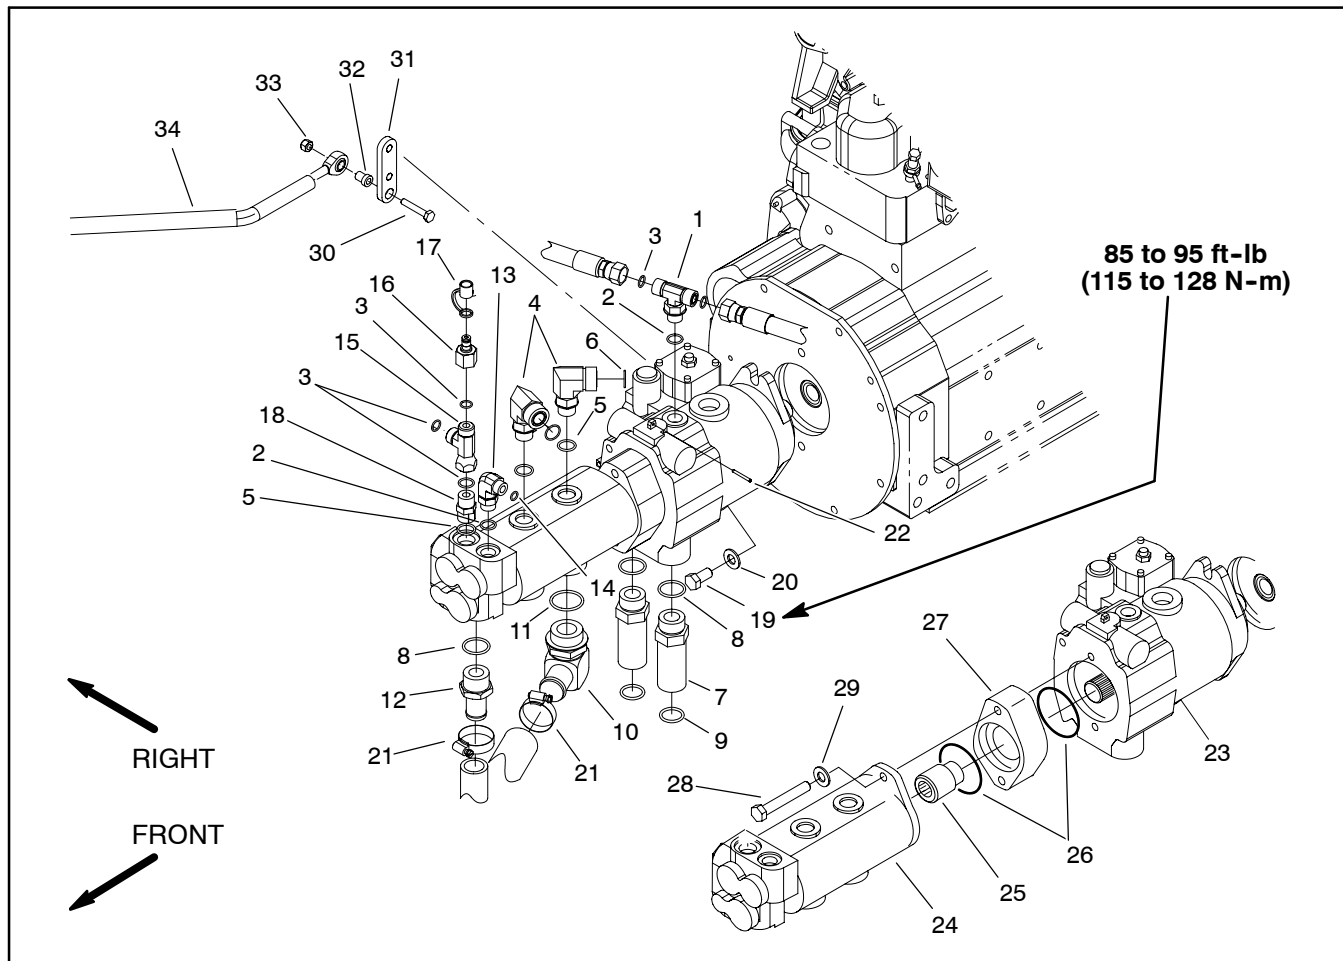

Figure 45
**Removal (Fig. 45)**
8. Support the piston pump to prevent it from falling while removing two (2) cap screws and washers retaining pump assembly to engine adapter plate. Carefully pull pump assembly from adapter plate and raise it out of the machine.
**Installation (Fig. 45)**
1. Carefully lower piston pump into the machine and position it to the engine adapter plate. Support pump to prevent it from falling while installing two (2) cap screws and washers securing piston pump to engine adapter plate. Torque screws from 85 to 95 ft-lb (115 to 128 N-m).